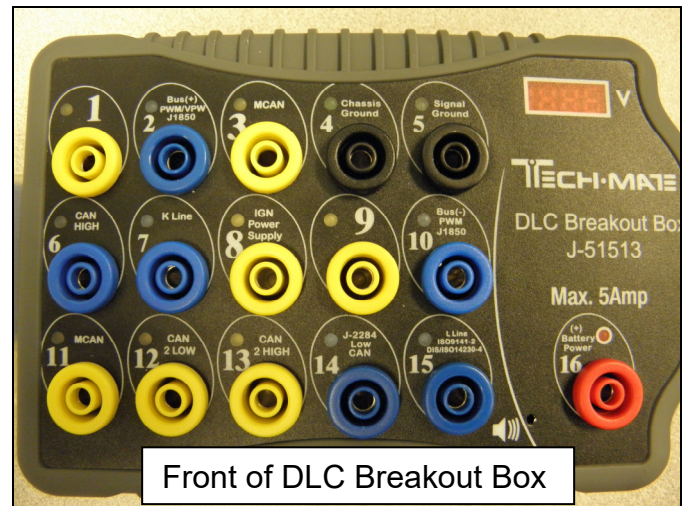

Figure 1
- Plug the DLC Breakout Box into the vehicle DLC connector and perform all voltage, resistance and continuity testing directly from the provided “pin-outs” shown in Figure 1.